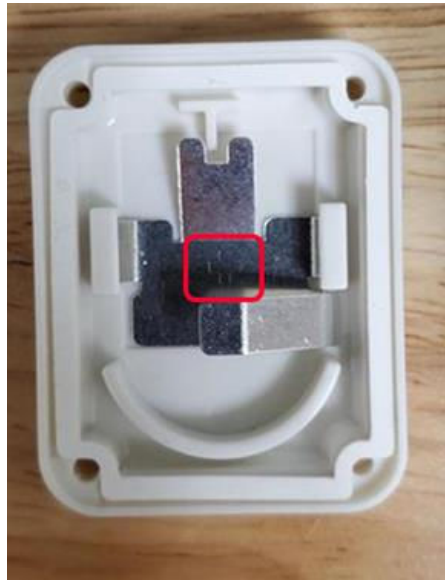

Figure 2-10: Proper Gasket Appearance
3. Check that the gasket is undamaged and still properly seated with an adhesive on the battery cover. It should look similar to Figure 2-10.